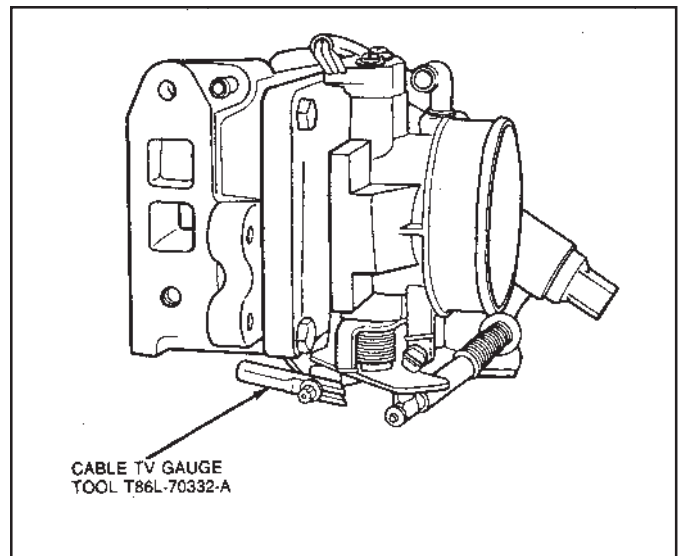

Figure 13
- 5.3 Insert tapered end of the tool between the crimped slug on the end of cable and plastic cable fitting that attaches to the throttle lever. (See Fig. 13.) Push in Cable TV Gauge Tool T86L-70332-A, or equivalent forcing the crimped slug away from the plastic fitting. Ensure gauge block is pushed in as far as it will go.